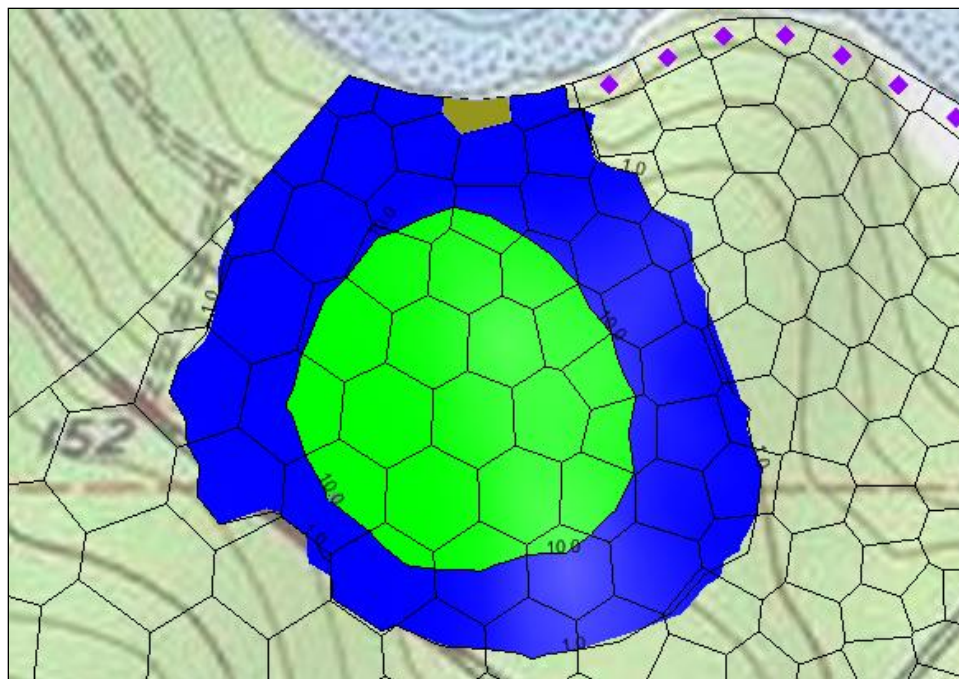

Figure 10 Select cell 840 in layer 1
3. Using the **Select Cells**  tool, select cell 840 in layer 1 as in Figure 10.